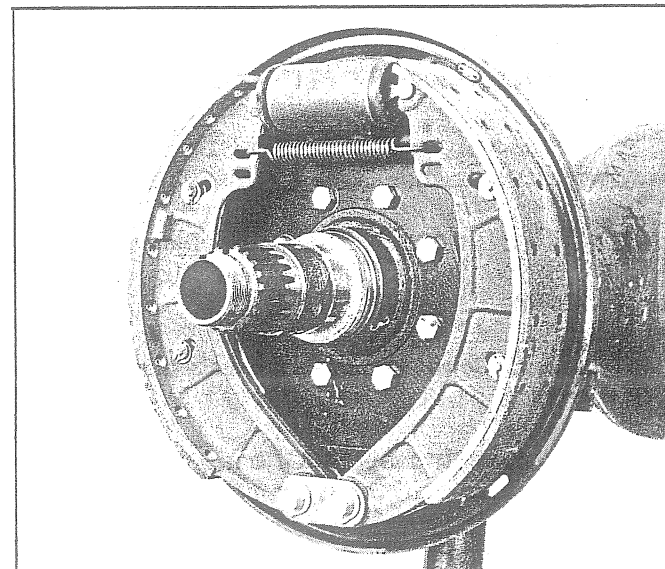

Fig. 9 - Brake and Backing Plate Attached to Axle
9. Remove the bolts and nuts securing the brake assembly to the axle housing and remove the brake and backing plate as an assembly, see Fig. 9.
2. Position the brake backing plate assembly to the axle housing and secure with retaining bolts and nuts as shown in Fig. 9. Tighten retaining bolts to 85-95 ft.-lbs. torque.